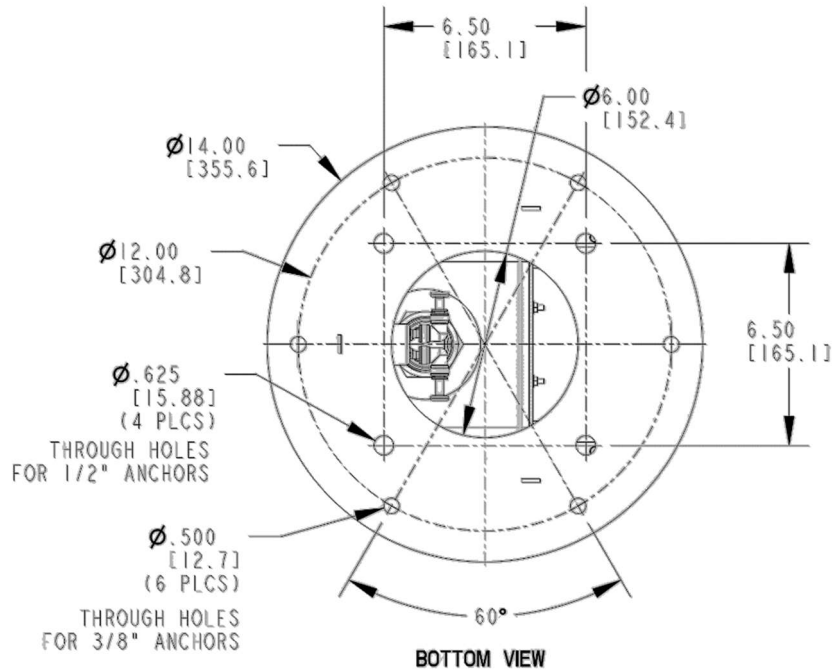

Fig. 3 – Bottom view
- Install whole unit to the ground using 3/8" (6 places) or 1/2" anchors (4 places). See Fig.3 for reference. Anchors are not included. This bottle filler is to be mounted on a smooth, flat, finished surface with adequate support structure. Oasis can provide optional anchor assembly that can be delivered together with the unit. For easy access to the filter (optional) place unit at least 120 mm away from the wall.